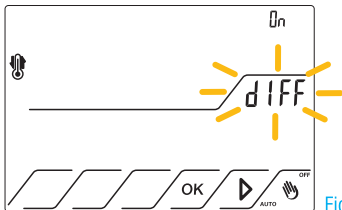

Fig.33
10.1.4 Press OK to confirm. **dIFF** appears and flashes. ON state appear and indicates that the on-off regulation is active. Fig.33
10.2.1 Repeat the steps 10.1.1 - 10.1.4. Fig.33
10.3.1 Repeat the steps 10.1.1 - 10.1.4. Fig.33
10.4.1 Repeat the steps 10.1.1 al 10.1.4. Fig.33
This function starts the boiler fo 1 minute a day every day. Fig.33